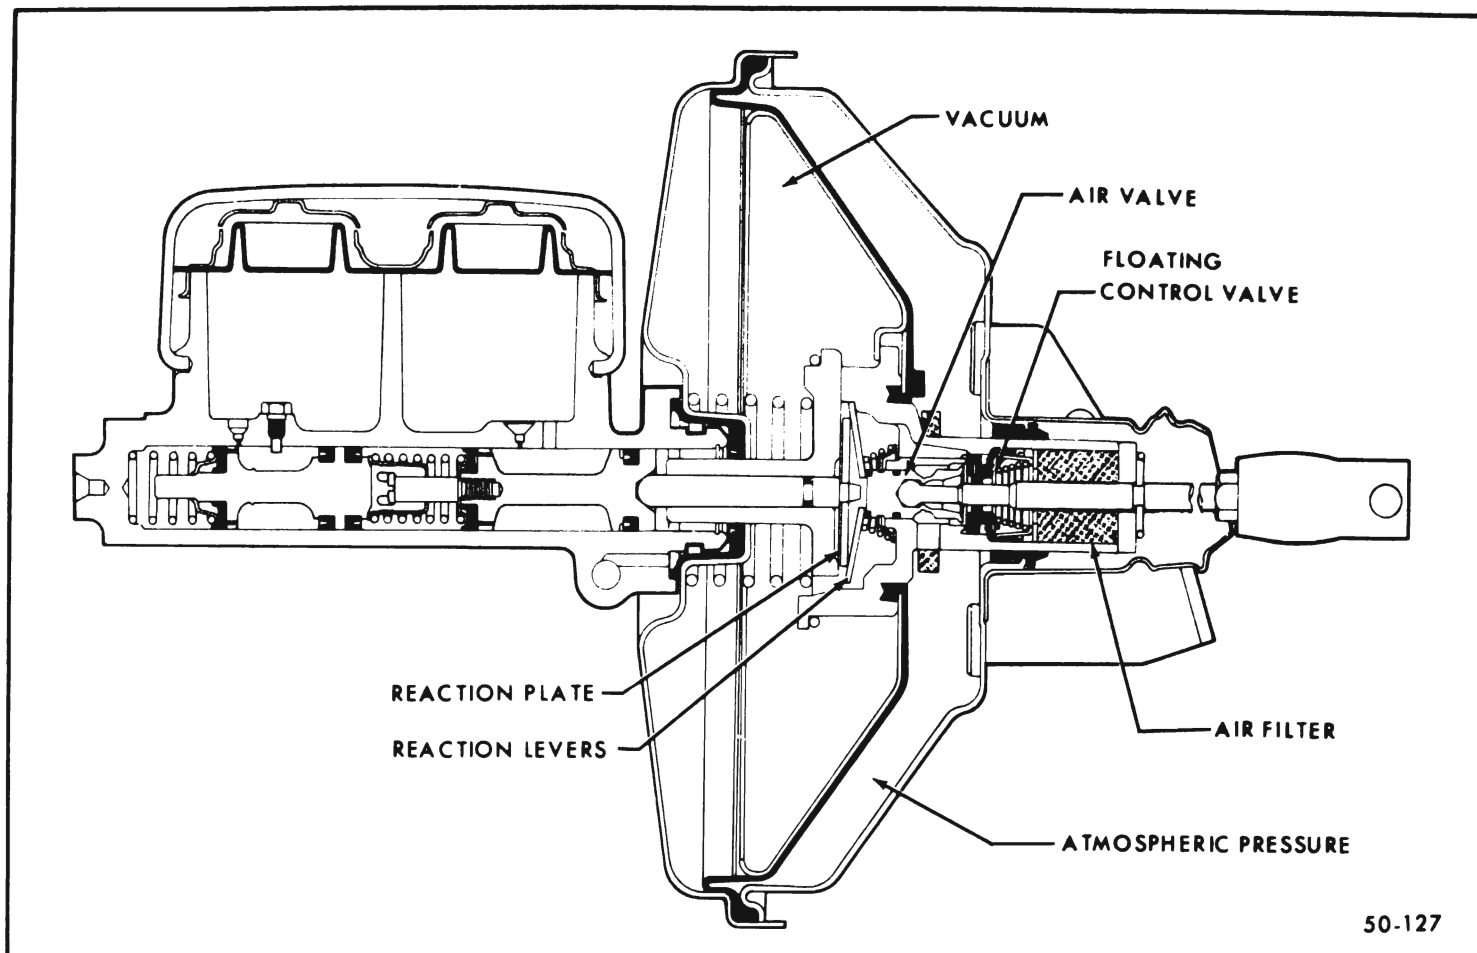

Figure 50-64--Power Brake Unit -
2. Applying Position. As the pedal is depressed, the push rod carries the air valve away from the floating control valve. See Figure 50-64. The floating control valve will follow until it is in contact with the raised seat in the power piston. When this occurs, the vacuum is shut off to the rear side of the power piston and air under atmospheric pressure rushes through the air filter and travels past the seat of the air valve and through two passage-ways into the housing to the rear of the diaphragm.